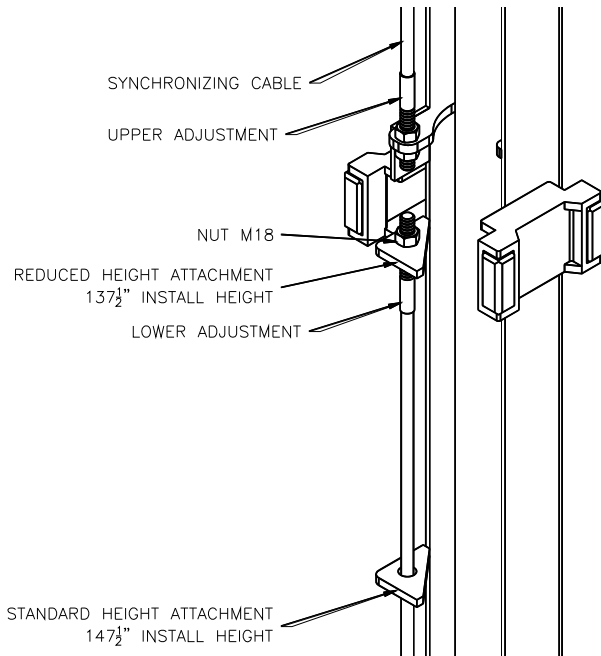

Fig 5 – Synchronizing Cables
- 16) Attach one end of synchronizing cable to carriage. **See Fig 5** for proper attachment.
- 17) Route cable up and over sheave in overhead. Follow across to other sheave on opposite column. Route down through carriage to sheave in bottom of column. Route under sheave and up to cable attachment. Lower attachment point is used for Standard Height Installation (175") and the Upper attachment point is used for Reduced Height Installation (166"). Use **Fig 5** for proper attachment.